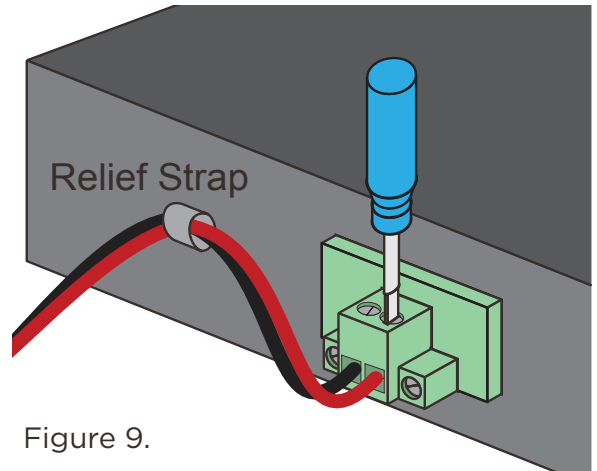

Figure 9.
- Secure the speaker wire to the relief strap. See Figure 9.